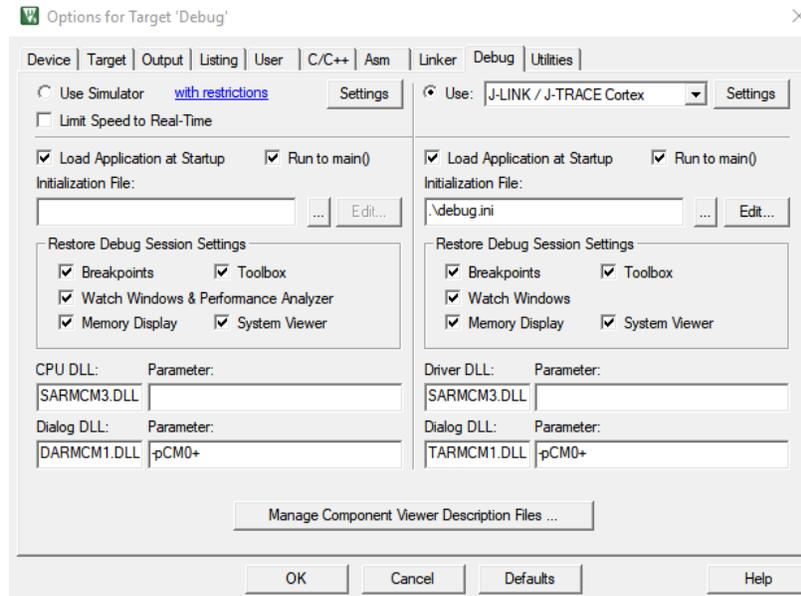

Figure 5. Setting of debug.ini file
2. Put the **.\debug.ini** command into the “Intialization File” field (“.\” means the relative path from the *safety\_cm0.uvprojx* project file to the *debug.ini* file, as shown in Figure 1 and Figure 2). The correct settings are shown in Figure 5.